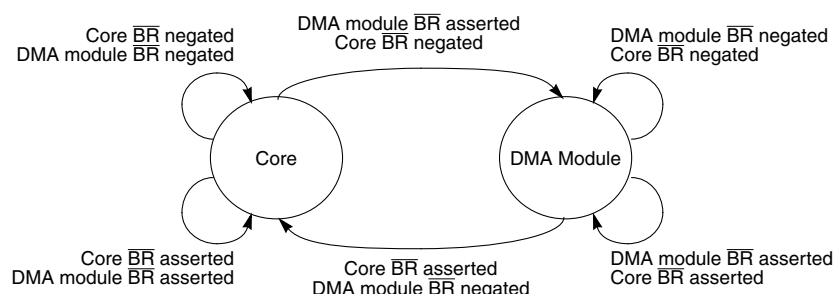

**Figure 6-13. Park on Current Master Priority (PARK = 01)**
- Park on current master priority (PARK = 11)—The current bus master retains mastership as long as it needs the bus. The other device can become the bus master only when the bus is idle. For example, if the core is bus master out of reset, it retains mastership as long as it needs the bus. It loses mastership only when it negates its bus request signal and the DMA asserts its internal bus request signal. At this point the DMA module is the bus master, and retains bus mastership as long as it needs the bus. See Figure 6-13.